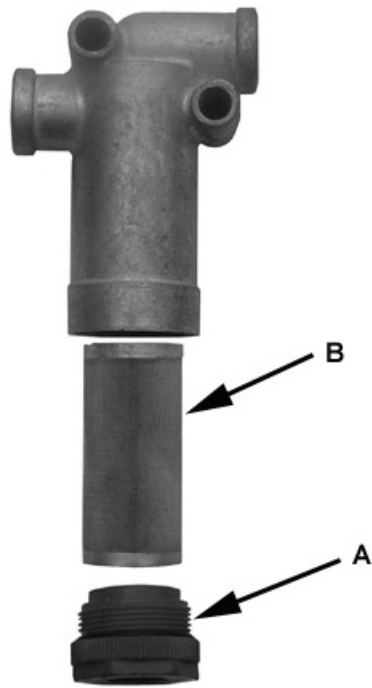

Figure 8-14 Air In-Line Filter
Your trailer is equipped with air inline filters. Filters are mounted on the inside of the frame rail. Every six months, relieve the air press in the trailer air tanks and remove the cap (A) and filter screen (B). See figure 8-14. Clean and install filter screen and cap.